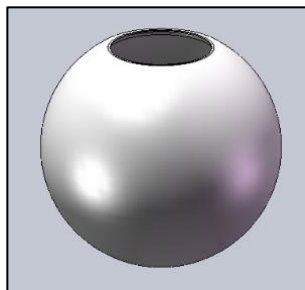

FIG. 6 - ACRYLIC GLOBE
2. ACRYLIC GLOBE. (shown in FIG. 6)